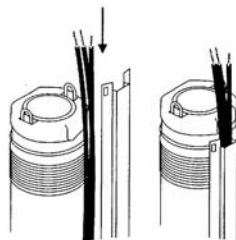

Figure 9
3. Fasten the cable guard to the cap plug with the four screws supplied, see figure 9.